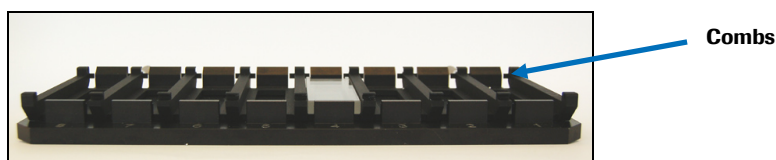

Figure 6. Illustration of Combs
- Dispense reagent grade water so the liquid level reaches half-way up the combs (Figure 6) located at the back of the assembly.